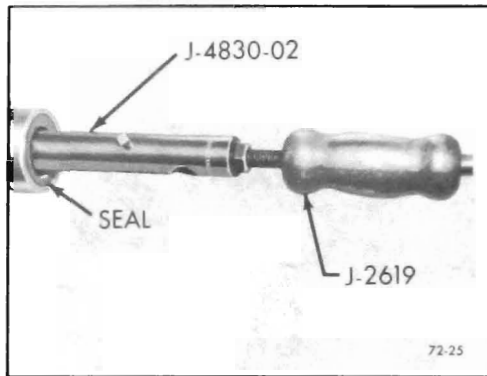

Figure 72-324 Removing Rear Bearing Retainer Oil Seal
1. Using Tool J-2619 Slide Hammer and Tool J- 4830-02 Puller, remove rear bearing retainer oil seal. See Figure 72-324.